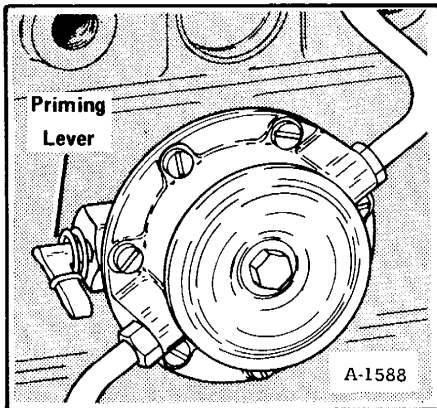

Fig. 42 Priming Pump
4. Operate priming lever of fuel lift pump, forcing fuel and air bubbles through vent points (Figure 42).